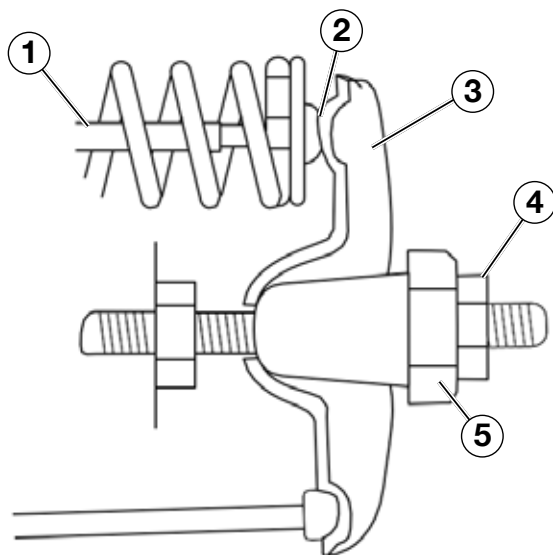

Figure 19
- Insert a feeler gauge between the rocker arm and the push rod and check for clearance (see Figure 19). See table below for valve lash specifications